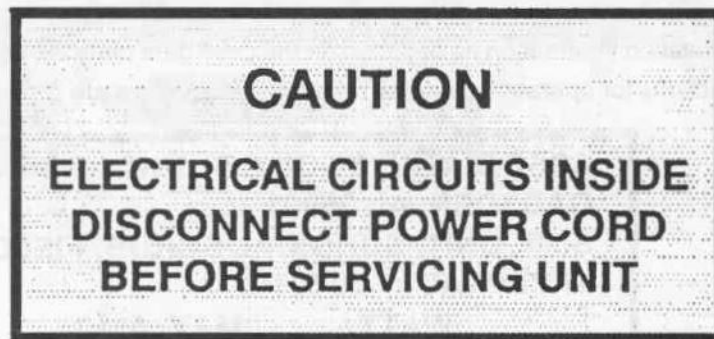

Figure 1-5. Control box caution decal.
- (b) A decal, located on the control box cover providing electrical safety caution information, is illustrated in figure 1-5.